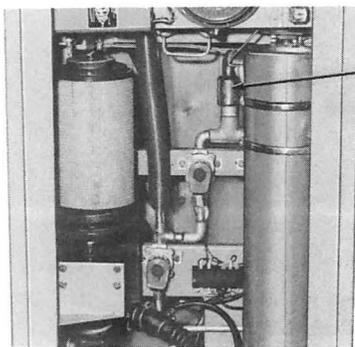

**Fig. 7—D19610-501 Refrigerator and Evaporator Assembly**
**3.03** Replacement of the entire refrigeration system can be made by field personnel with the D19610-501 Refrigerator and Evaporator Assembly (Fig. 7).